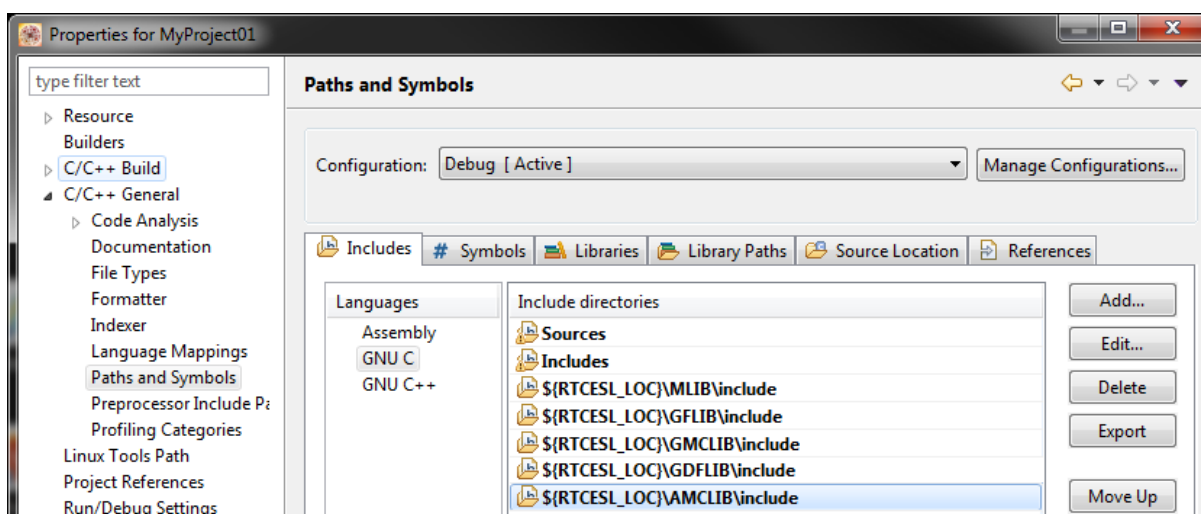

Figure 1-26. Compiler setting
27. In the right-hand dialog, select the Includes tab, and click GNU C in the Languages list. See Figure 1-26.
38. Click OK, and you will see the paths added in the list. See Figure 1-26. Click OK.